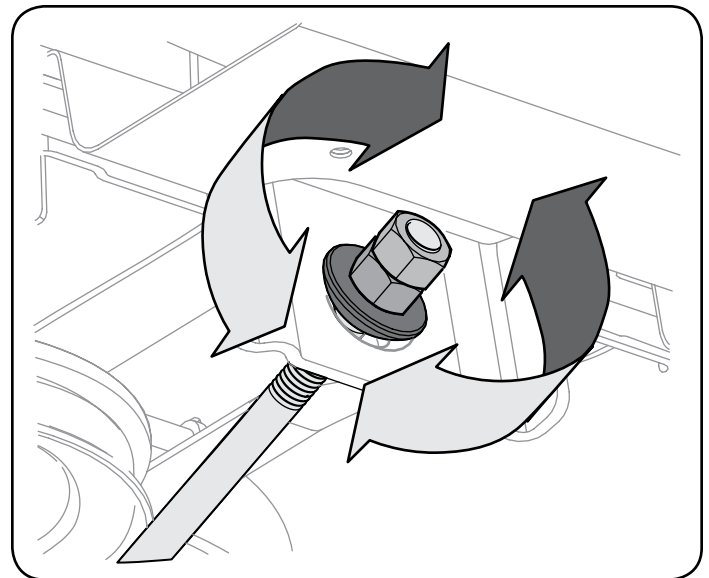

Figure 21
5. To *raise* the front of the deck, remove the end cap, loosen the outer nut then tighten (thread inward) the nut against the front hanger bracket. See Figure 21. When proper adjustment is achieved, re-tighten the outer nut and replace the end cap.
6. To *lower* the front of the deck, remove the end cap, loosen the outer nut then loosen (thread outward) the nut, away from the front hanger bracket. See Figure 21. When proper adjustment is achieved, re-tighten the outer nut and replace the end cap.